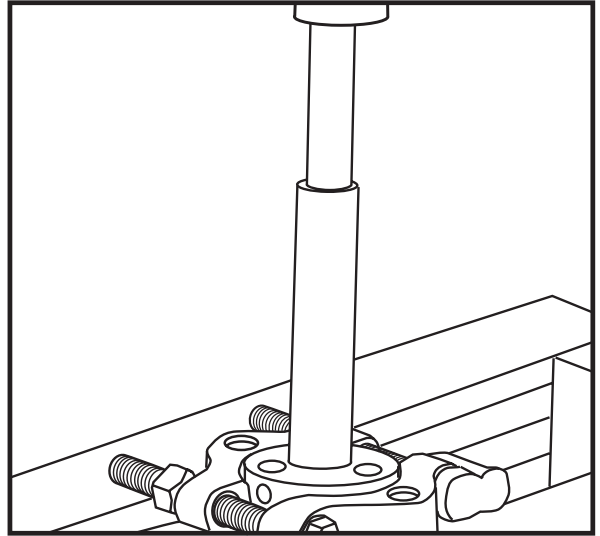

Fig. 40
12. Use arbor press to push off bearings. Use flat steel bars to get under bearing. See Figure 40.